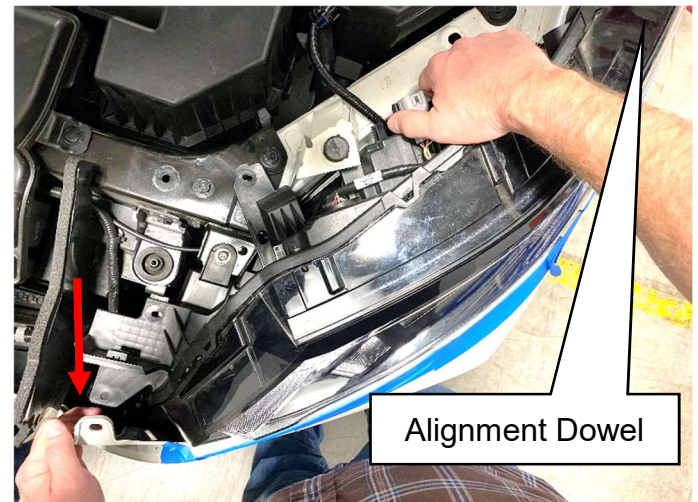

Figure 17
17. Carefully pull the fascia back and install the new combination lamp assembly. (Figure 17)